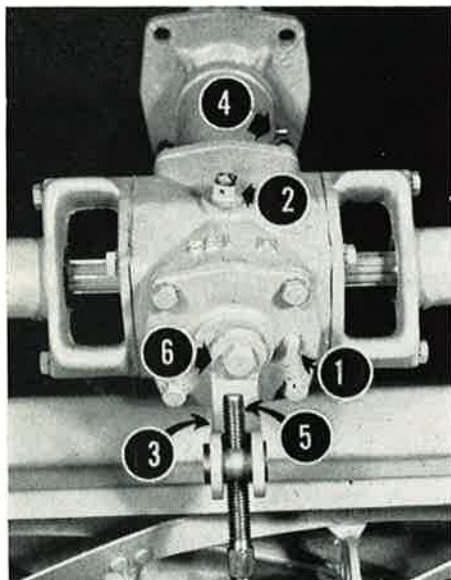

Figure 18
Check the Gear Housing oil level every four hours of operation by removing the Oil Level Plug, 1 in Figure 18. If oil runs out, the oil level is all right; if not, oil must be added.
To add oil, remove the Oil Filler Plug, 2 in Figure 18, and pour through the Oil Filler Hole until oil begins to run out the Oil Level Hole (too much oil will cause over-heating and consequent gear damage). Replace both Plugs before resuming mowing.
Change oil in the Gear Housing at least annually. To drain, remove the entire Strut Casting, 3 in Figure 18; replace after the oil has drained. Add oil as instructed above.
Use General Purpose Grease occasionally in the grease fittings on the Swivel Casting, 4 in Figure 18, and as required in the grease fittings for the Reel Bearings, arrow in Figure 19. It is important to lubricate properly the Reel Bearings, as the grease forms a water seal around each Bearing, preventing rust. Use General Purpose Grease as required in the grease fittings on the Roller Bar.
Turn the Height Adjusting Screw, 5 in Figure 18, clockwise to raise the cutting height; turn it counter-clockwise to lower the cutting height.
1. Loosen the bolt on the front of the Gear Housing, 6 in Figure 18.